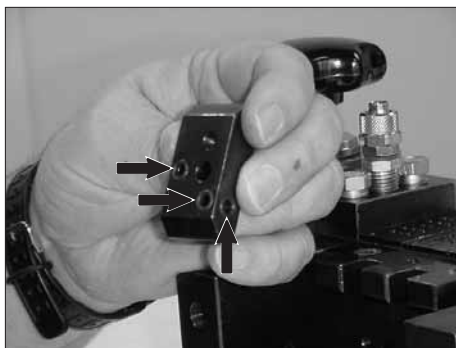

Figure 7-71 Location of the adhesive diverter plate O-rings
1. See Figure 7-71. Prior to installing the adhesive diverter plates, refer to the applicator-specific reference drawing provided with this manual for the correct plate location. Install O-rings in each adhesive diverter plate used.